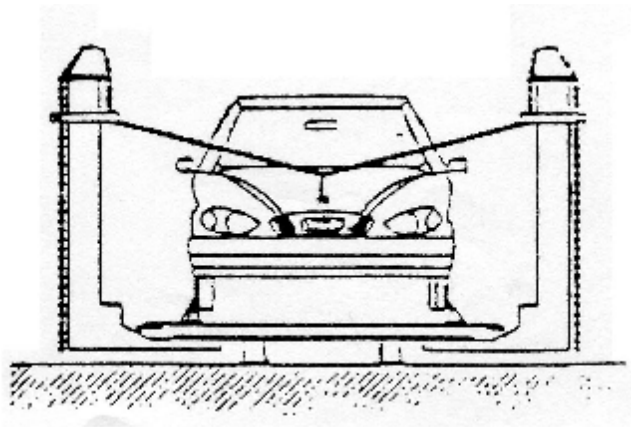

Fig. 15 Pulling the Top Upward
- I When the top of the vehicle body needs to be pulled upward, use the pulling tower to perform the task as shown in Fig. 15.